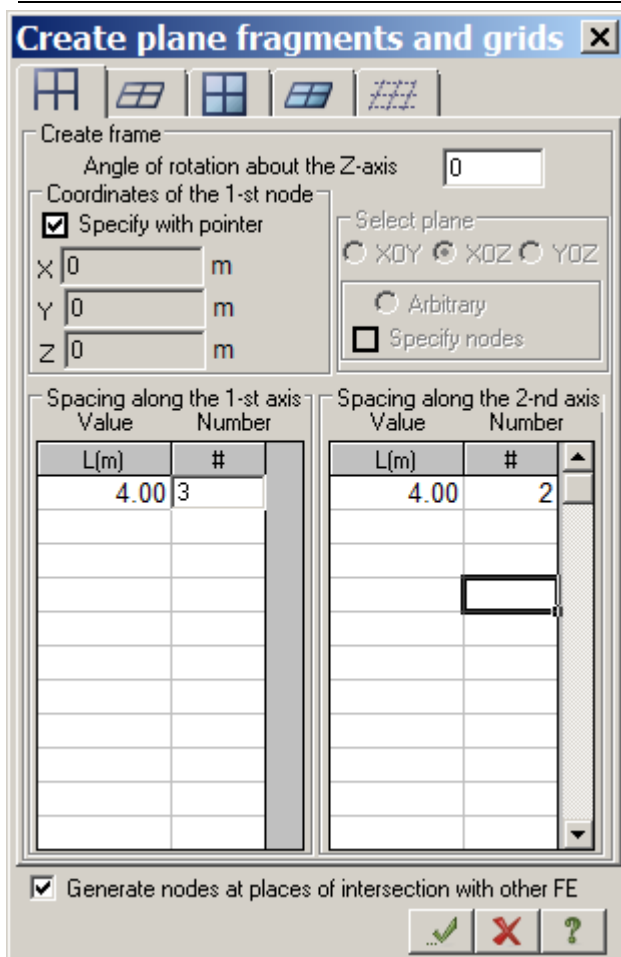

Figure 3.3 Create plane fragments and grids dialog box
- other parameters remain by default (see Fig.3.3).